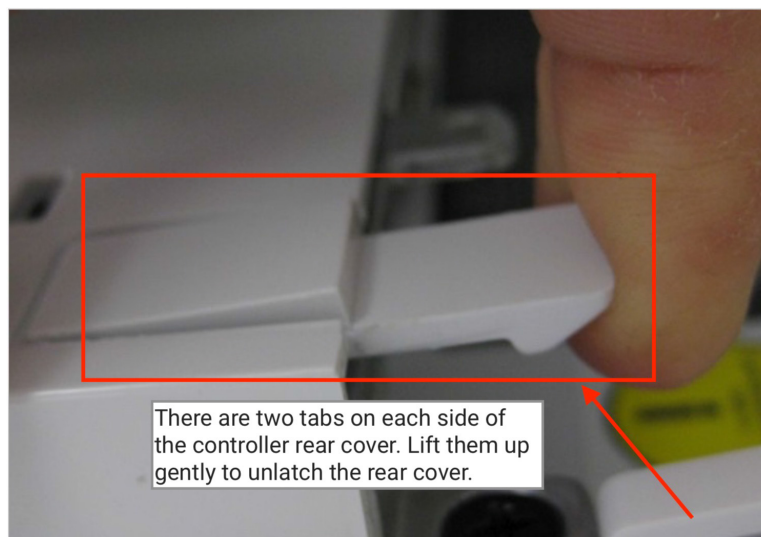

Figure 10. Gently lift the two tabs to unlatch the rear cover.
- 6 Locate the two tabs that secure the rear cover to the controller. Gently lift the two tabs to unlatch the rear cover and pull it away from the controller to expose the cable area (**Figure 10**).